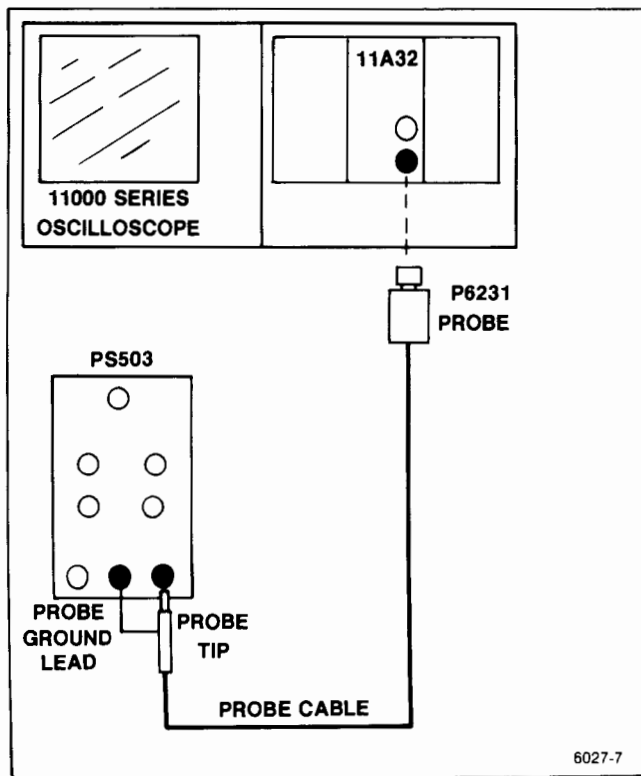

Figure 3-1. Offset check setup.
l. Connect the probe ground, via a probe ground lead, to the voltage source (PS503) common output. Touch the probe input to the + output (refer to Figure 3-1).